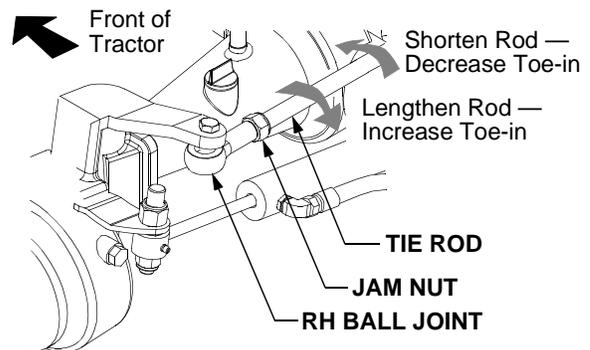

Figure 31
- Loosen the jam nuts at both the LH and RH ball joints. See Figure 31.
Forward to shorten the tie rod and decrease the toe-in. See Figure 31.
Rearward to lengthen the tie rod and increase the toe-in. See Figure 31.